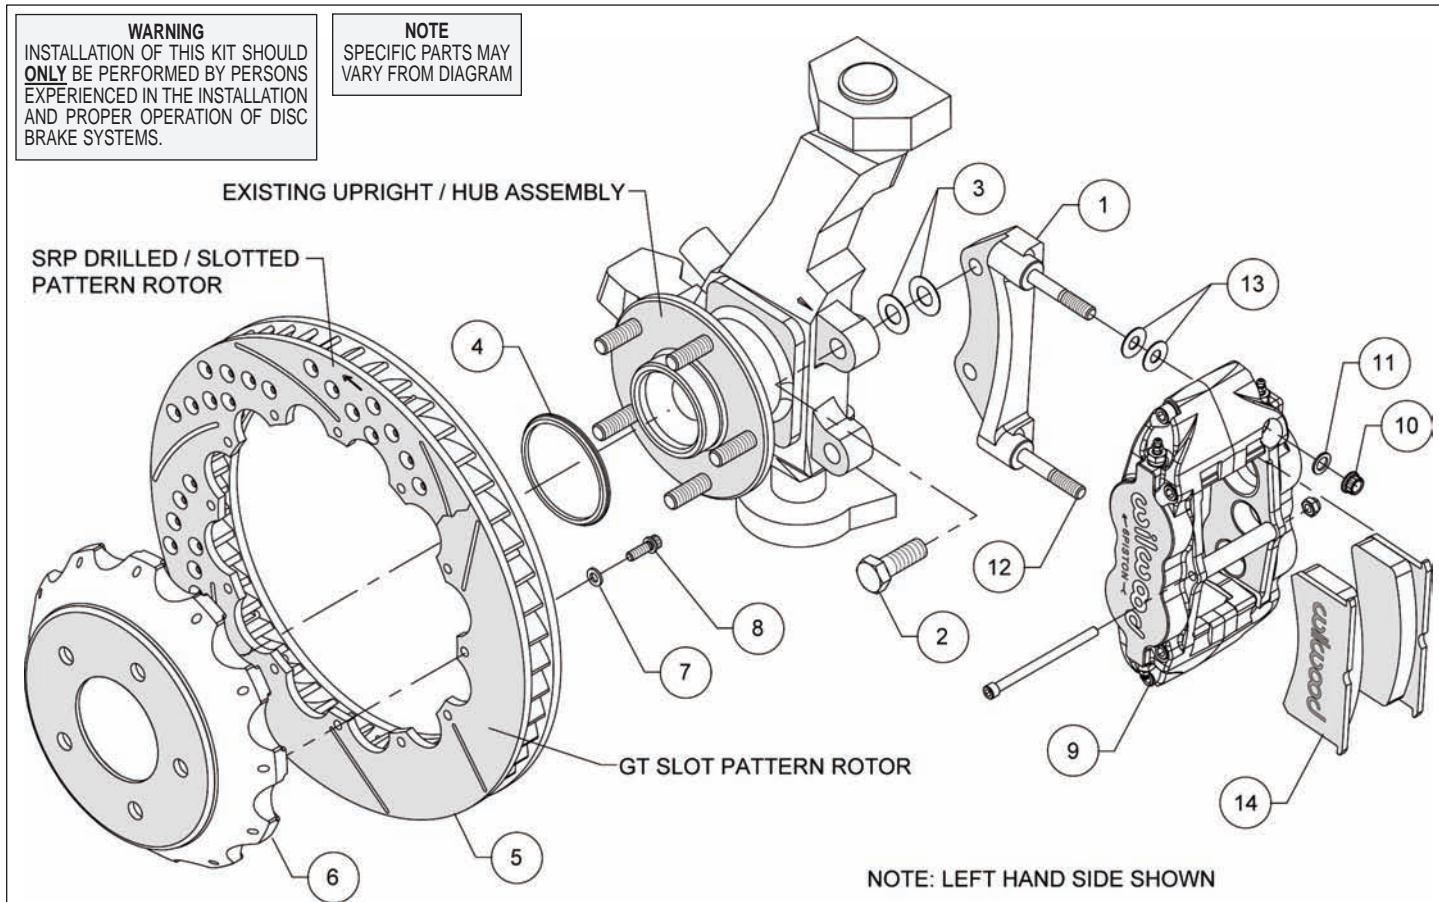
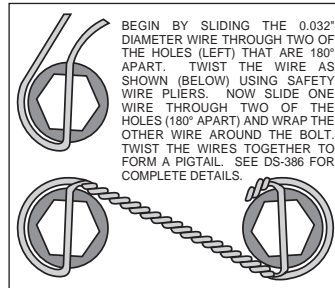

Figure 1. Typical Installation Configuration
Figure 3. Safety Wire Diagram
Assembly Instructions (numbers in parenthesis refer to the parts list and Figure 1 on the preceding pages):
- The caliper mount bracket (1) should initially be installed with clean, dry threads on the mounting bolts. Orient the bracket as shown in Figure 1 and Photo 1, and install using shim washers (3) and bolts (2). Initially place two shims (3) on each bolt between the bracket and upright, Figure 1. Temporarily tighten the mounting bolts. **NOTE:** *The bracket must fit squarely against the mount bosses on the upright.* Inspect for interference from casting irregularities, machining ridges, burrs, etc. Later, after the caliper alignment has been checked, the mount bolts will be secured using red *Loctite*® 271.
- Orient the rotor (5) and the hat (6) as shown in Figure 1 and Photo 2. Attach rotor to hat using bolts (8) and washers (7). Using an alternating sequence, apply red *Loctite*® 271 to the threads and torque bolts to 155 in-lb. For an added measure of security, the bolts may be safety wired using standard 0.032 inch diameter stainless steel safety wire as shown in Figure 3. Please refer to Wilwood's data sheet DS-386 (available at www.wilwood.com/Pdf/DataSheets/ds386.pdf) for complete safety wire installation instructions.
- Slide the rotor registration adapter (4) onto the axle register on the axle hub with the smaller O.D. facing outward, Photo 3. Slide the hat/rotor assembly onto the axle hub. **NOTE:** *The hat must fit flush against the axle hub flange or excessive rotor run out may result.* Install three lug nuts (finger tight) to keep the hat/rotor assembly in place while continuing with the installation.
- NOTE:** *This kit contains distinct right and left hand calipers that must be mounted in a specific direction, as described below.* Lubricate the caliper mounting studs (12) with lightweight oil. Initially place two .035" thick shims (13) on each stud as shown in Figure 1 and Photo 4. Mount the caliper (9) onto the bracket (1) using lock nuts (10) and washers (11), Figure 1. Ensure that the caliper is mounted so that the largest pistons are at the rotor exit end of the caliper, in relation to the direction of rotor rotation. Temporarily tighten the lock nuts and view the rotor through the top opening of the caliper. The rotor should be centered in the caliper, Photo 5. If not, adjust by adding or subtracting shims (3) between the bracket and the upright. Always use the same amount of shims on each of the two mounting bolts. Once the caliper alignment is correct, remove the bracket mounting bolts one at a time, apply red *Loctite*® 271 to the threads, and torque to 75 ft-lb.